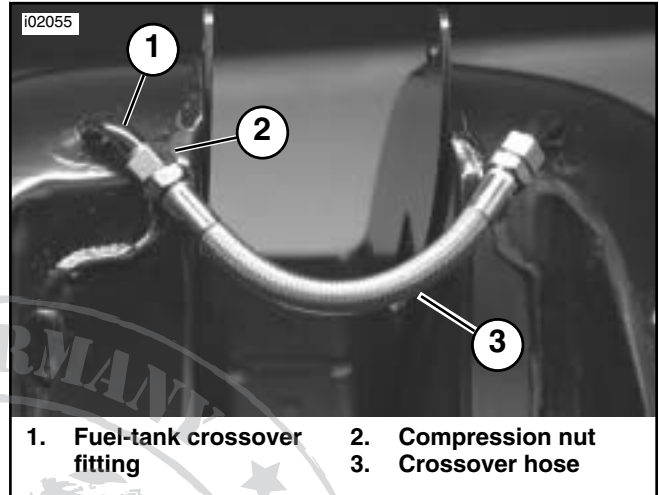

Figure 1. Crossover Fuel-Line Installed (Tank removed for Illustration Purposes Only)
4. See the Service Parts illustration. Slide a compression nut (3), closed-side first, over each of the fuel-tank crossover fittings.
5. Slide a compression ferrule (2) over each of the fuel-tank crossover fittings and past the barb at the end of the fitting.
6. See Figure 1. Route the new crossover hose between the fuel-tank crossover fittings and in the same way as the stock hose removed.